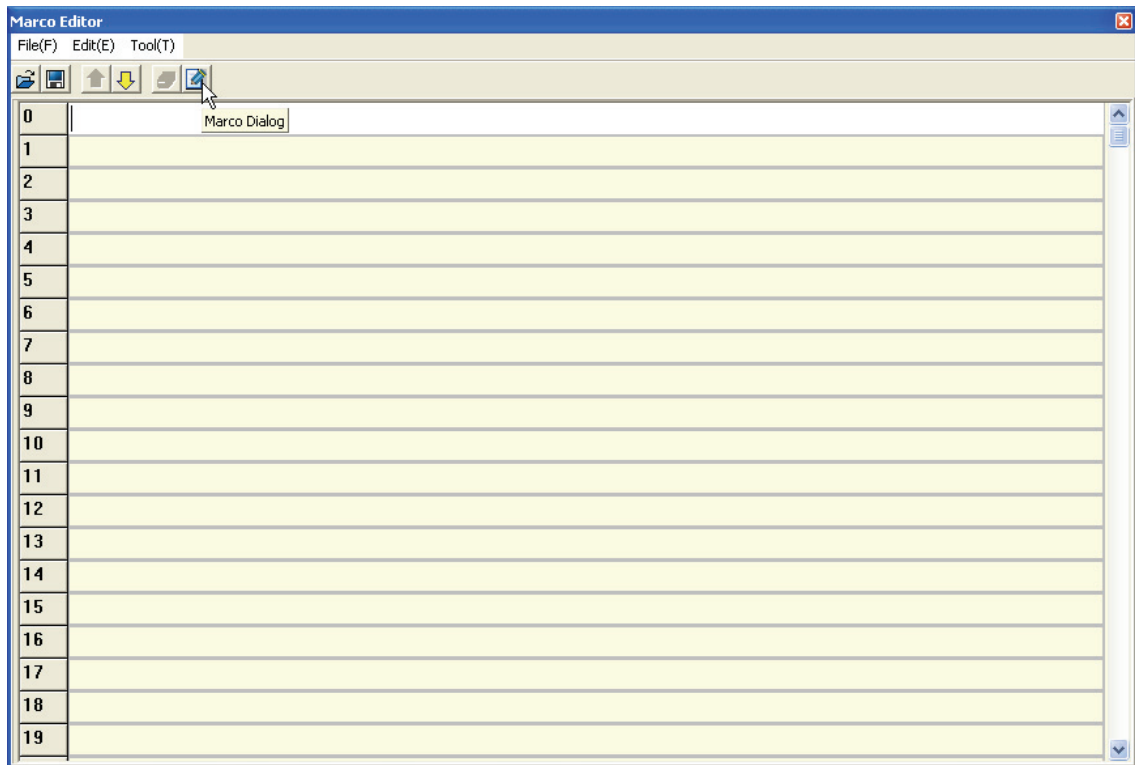
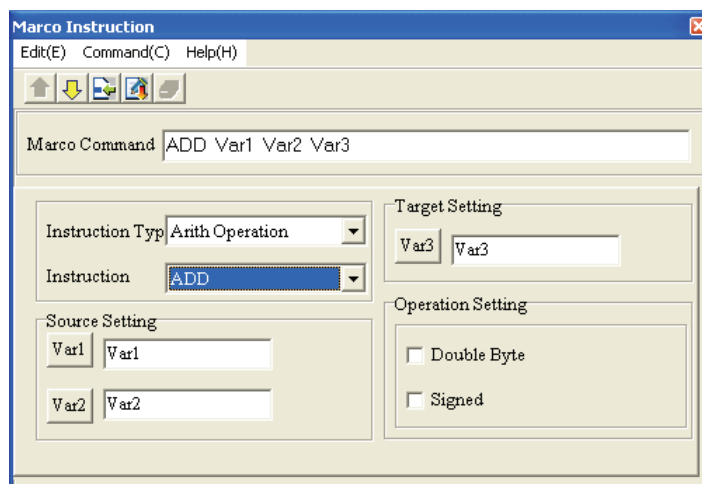

Figure 1-141
Figure 1-142
Step 1. Choose **Global Settings(G) > Global Macro Setting(M)** command from the menu bar. The Macro Editor tab will appear (Figure 1-141).
Step 2. Click **Macro Dialog** icon (Figure 1-141) to open **Macro Instruction** tab (Figure 1-142). In Macro Instruction tab, the users can select the macro instruction and the type of the macro instruction from **Command(C)** pull-down menu, such as Arith (Arithmetic) Operation, Logic operation, Data Moving operation, Compare operation, Bit and other operation).